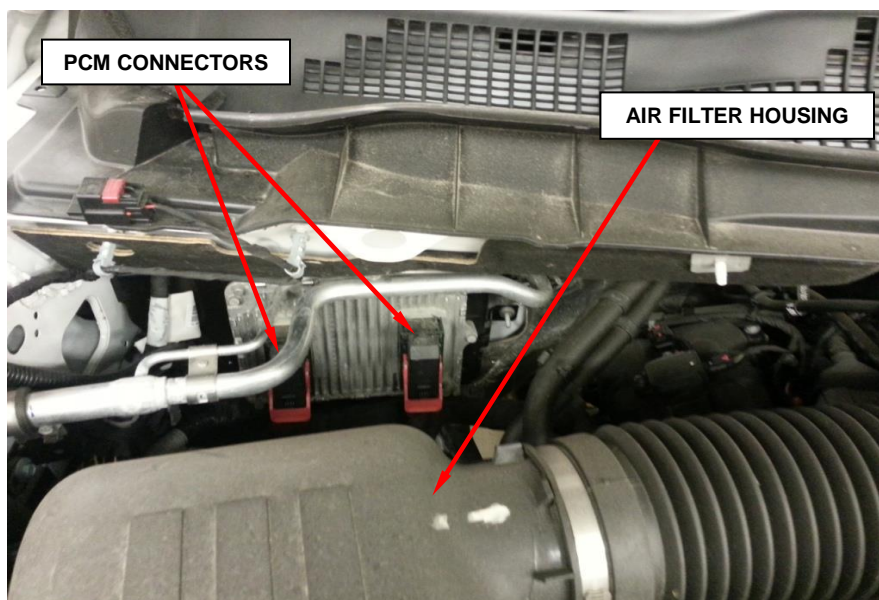

Figure 22 – PCM Location
2. Carefully disconnect the electrical connectors from the PCM (Figure 22).